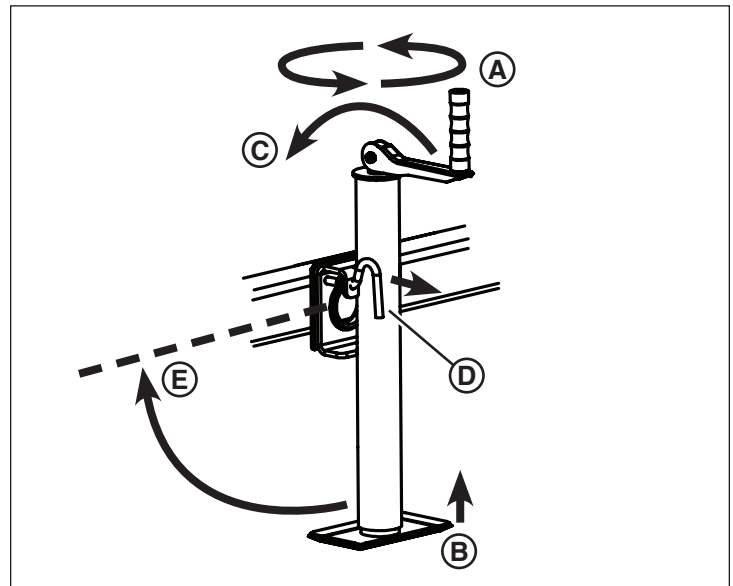

Figure 5
8. Turn the tongue jack handle (A, Figure 5) counter-clockwise to fully retract the tongue jack (B). Fold the crank handle over completely to lock the crank handle in transport position (C). Pull the lock lever (D) and rotate the jack 90° to place the jack in transport position (E), and release the lock lever. Make sure the lock lever engages and is secure.